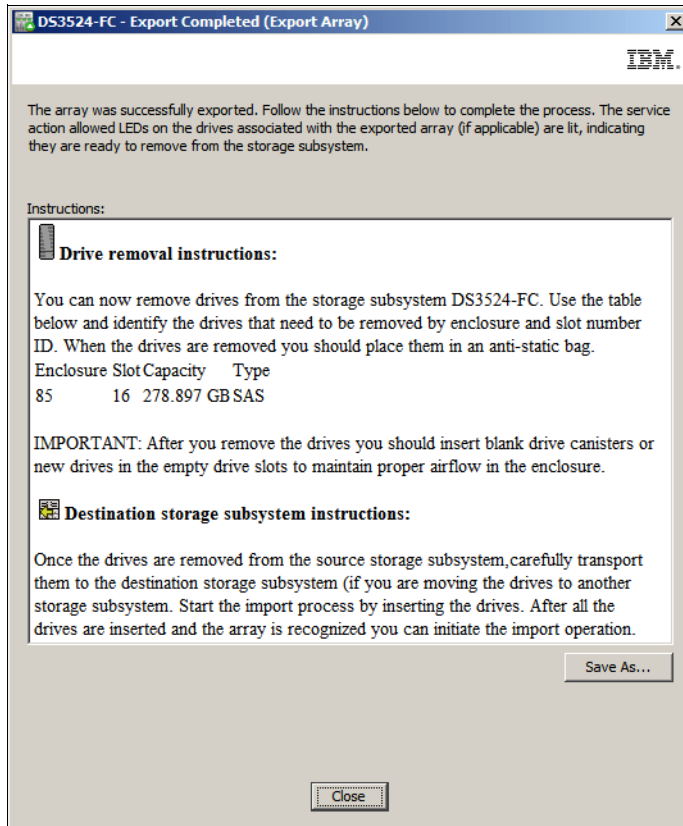
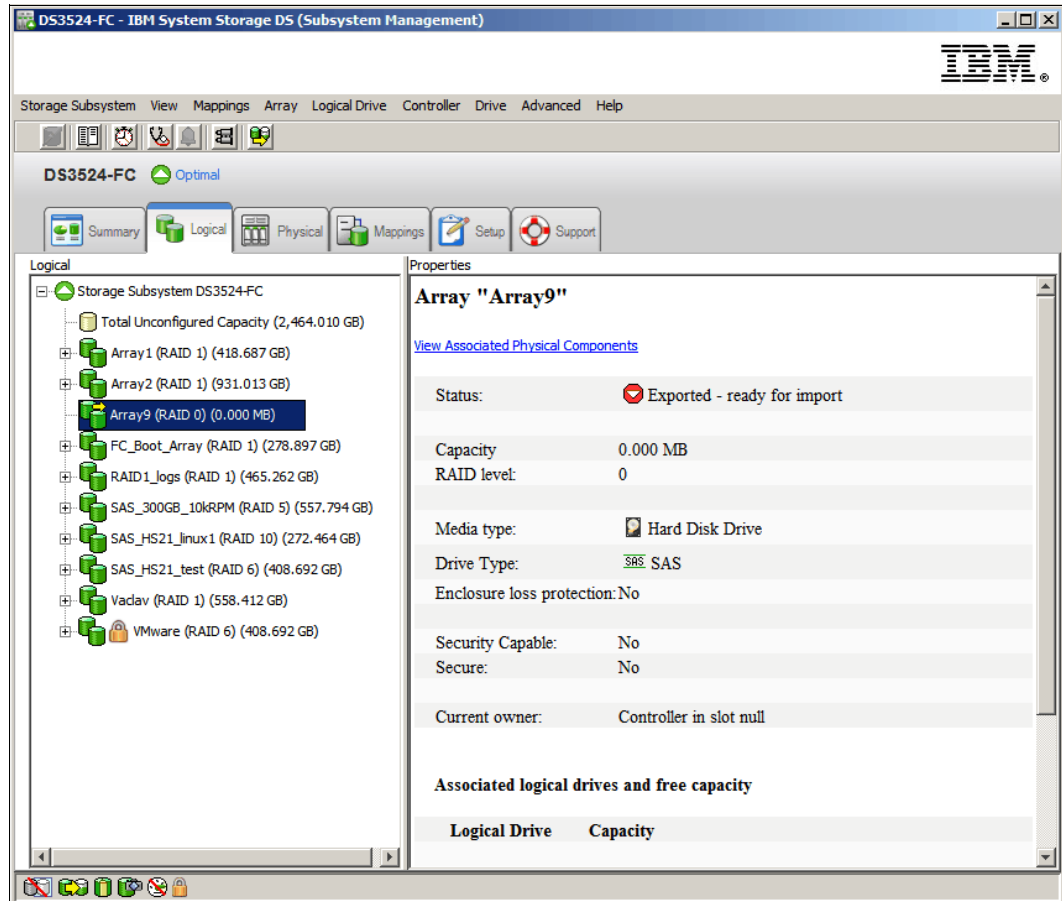

Figure 14-106 Export Completed (Export Array)
Figure 14-107 Exported - ready for import
- The window shown in Figure 14-106 is displayed when the array has been exported. You can also confirm that the array has been exported by checking the Storage Manager logical tab as shown in Figure 14-107 on page 397. The status of the array is reported as Exported - ready for import.
7. Finally, the hard disks in the exported array can be carefully removed from the source DS3500 and installed into the empty slots of the target DS3500. The imported array then will have the status Exported - ready for import in the target DS3500, as shown in Figure 14-107.